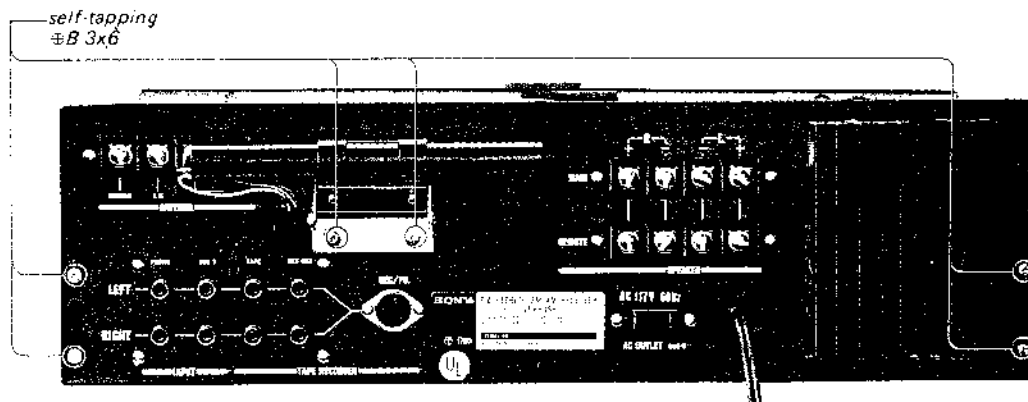

Fig. 2-17. Rear panel removal
4. Remove the six self-tapping screws ($\varnothing B 3 \times 6$), two of them secure the bar antenna holder to the chassis along with rear panel and others secure the rear panel to the chassis as shown in Fig. 2-17. This frees the rear panel.